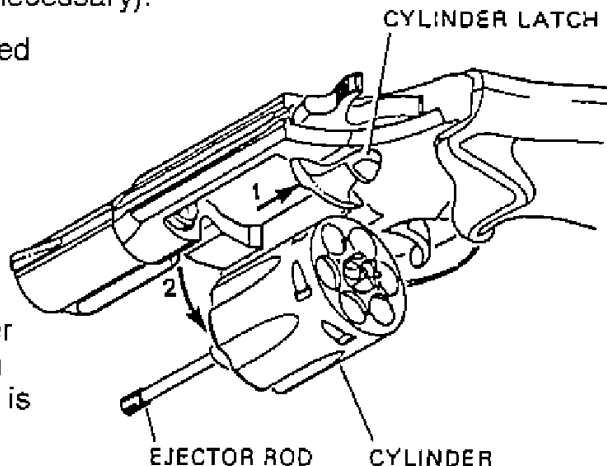

FIGURE 2—OPENING REVOLVER
2. Open revolver by pulling cylinder latch to rear and pushing cylinder out to the left (See Figure 2). Check each of six chambers to ensure they are clean and free from accumulated oil. (Clean if necessary).
2. Open revolver by pulling cylinder latch to the rear and pushing the cylinder out to the left of revolver (See Figure 2).
2. Open the cylinder as previously described (See Figure 2).